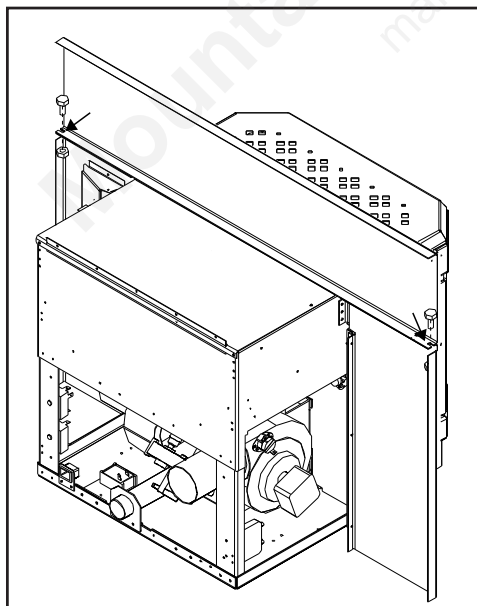

Figure 35: Assembling the Surround Panel, back view.
6. Insert each side panel anchor bolt through the top panel into the corresponding side panel holes and tighten using a  $7/16$ " wench or socket (refer to Figure 35).